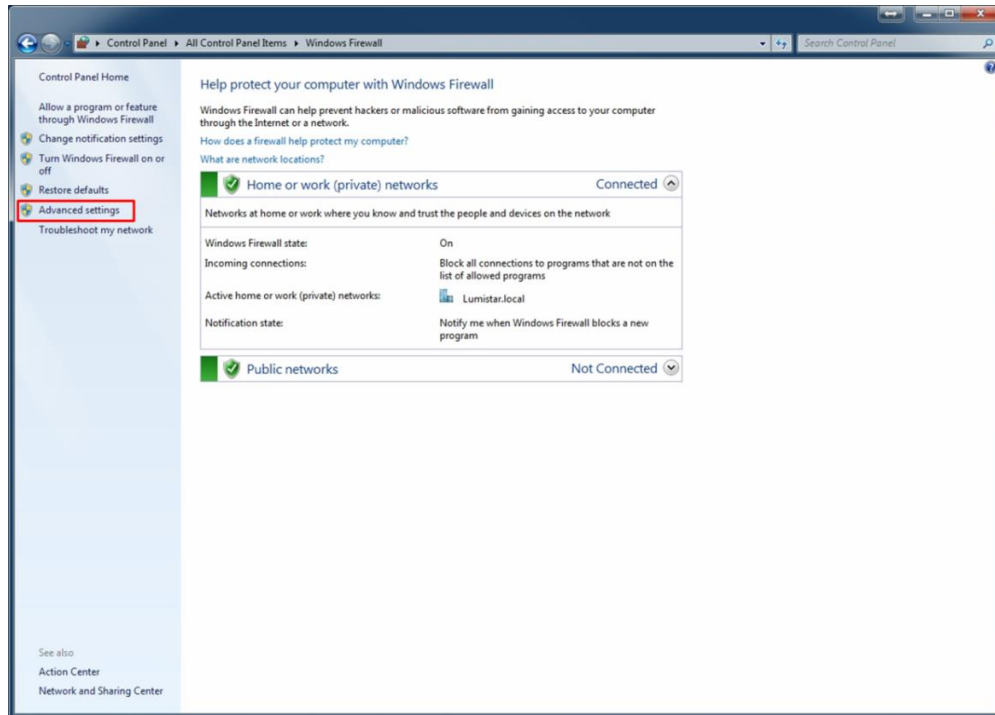

Figure 2-8 Windows Firewall – Advanced Setting Tab
Step 3: From Windows Firewall control, select the "Advanced Settings" option from the left-hand menu. See Figure 2-8.